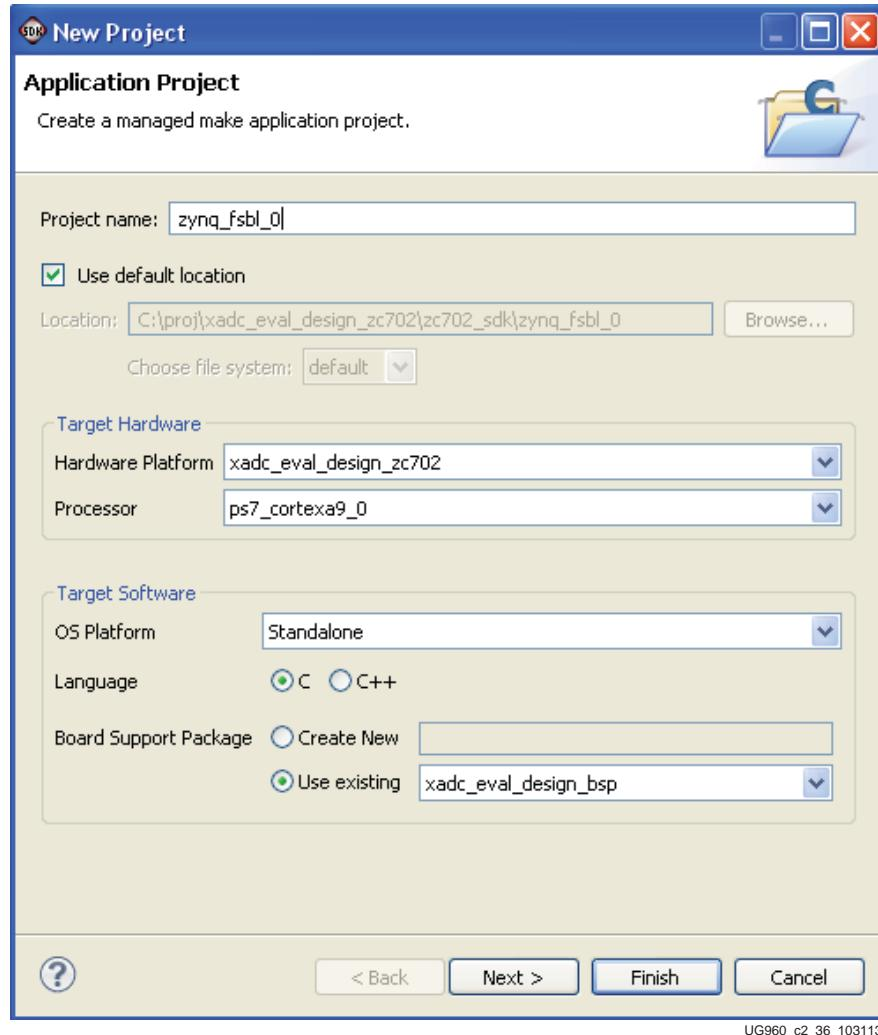

Figure 2-36: Creating a New FSBL Application Project
2. Set Project name and select **Use Existing** board support package. Click **Next**. See Figure 2-36.